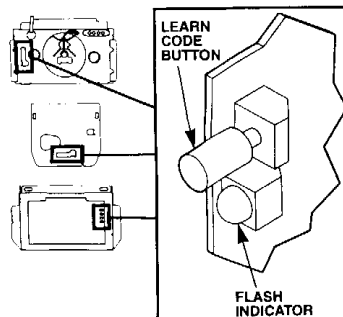

Fig. 1
Step 2-1 Press and release the Receiver Learn Code Button. *Fig. 1*